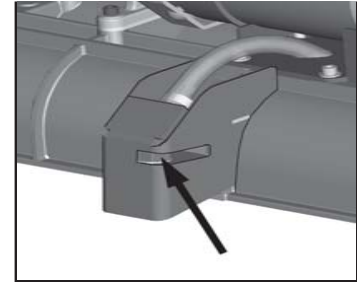

Figure 4
5. Observe solution spray pattern. If spray is not even to the left and right sides of the cover, place an 11/16", or 18mm wrench through the opening in the sprayjet cover (Figure 4) onto the brass fitting, and adjust the spray direction by turning the wrench slightly until spray is even.